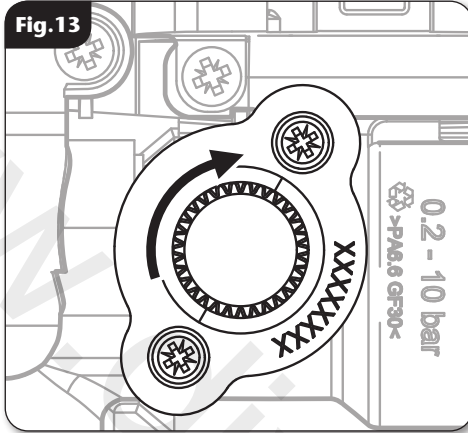

Fig.14
- Turn the temperature control on the cover fully clockwise until it stops (**fig.14**).